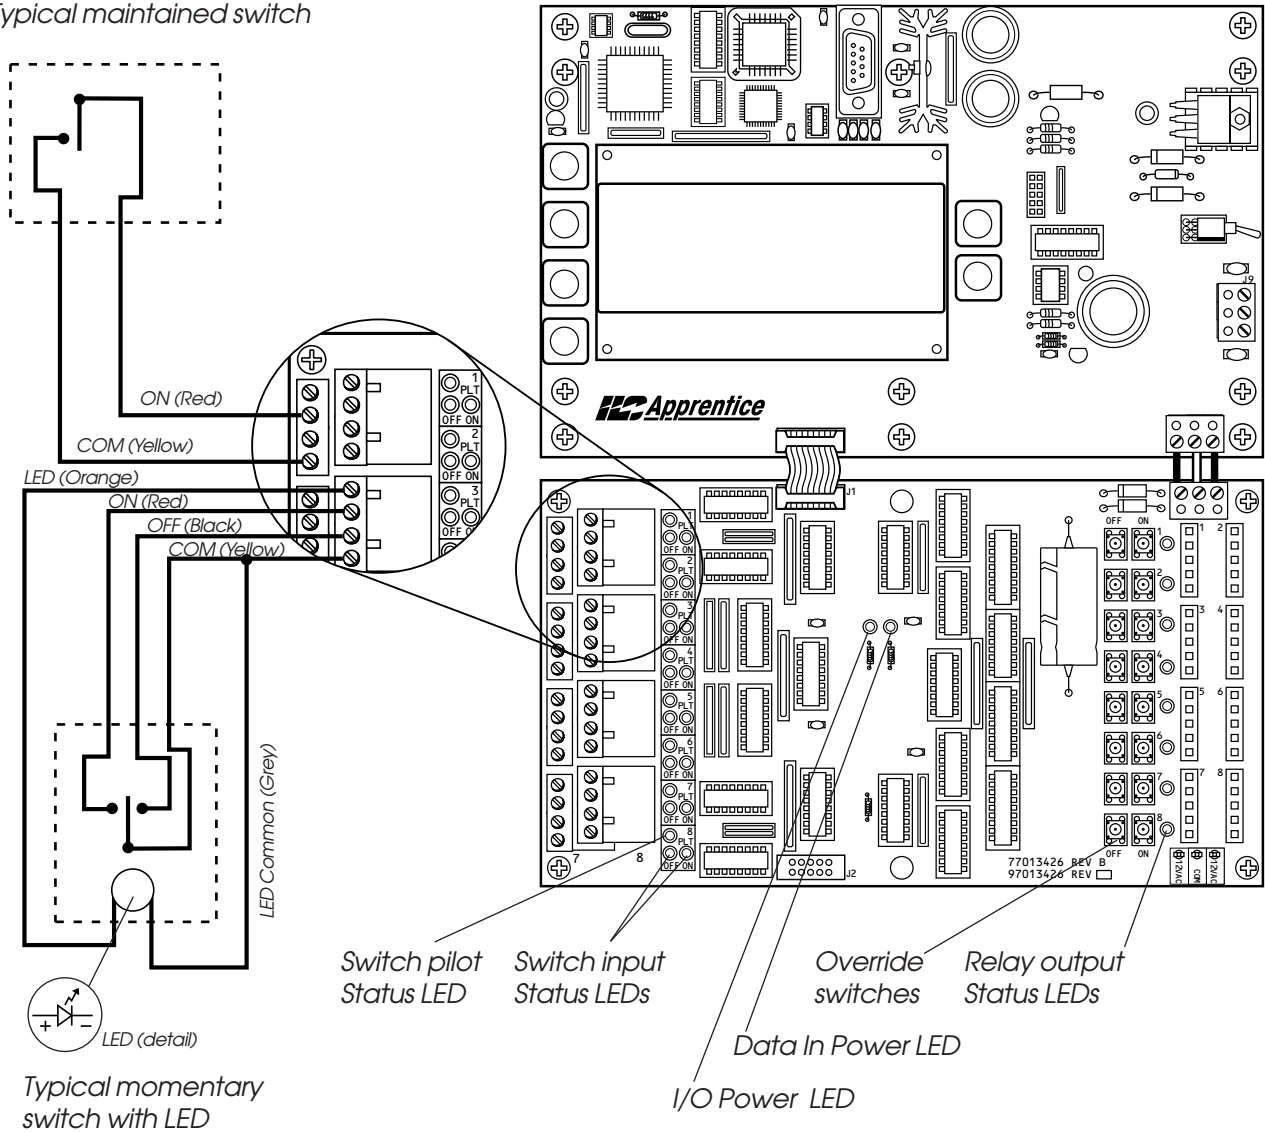

Figure 2.2 – Wire Class 2 Switch Circuits
2.3.3 Wire Switch Inputs - Wire the Class 2 Switch Circuits. (See Figure 2.2.)
3. Verify that both power lights on each I/O board are lit. (See Figure 2.2.)
Switch each relay ON and OFF, pushing the override switches located on the I/O board(s). There are separate ON and OFF switches for each lighting relay. (See Figure 2.2.) Verify that the relay status LED goes ON and OFF and that the relay itself changes state. Verify that the relay controls the proper circuit.